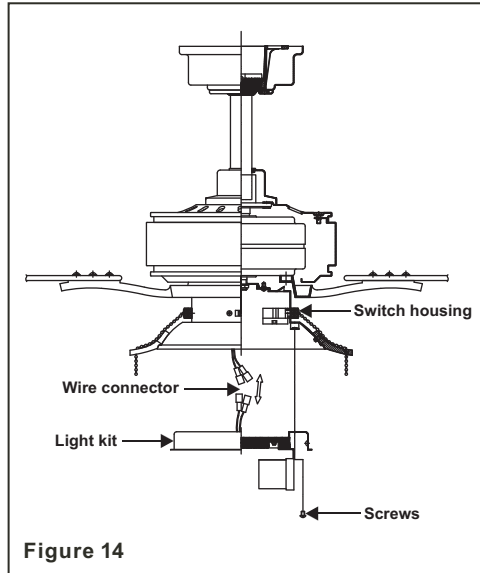

Figure 14
Step 1. While holding the light plate under your fan, locate two single white and blue wires in the switch housing labeled FOR LIGHT. Make the polarized plug connections: (Fig. 14)
Step 2. Carefully push all wires back into the switch housing, then install the light plate onto the switch housing with 3 screws provided. Be sure to tighten all screws. (Fig. 14)